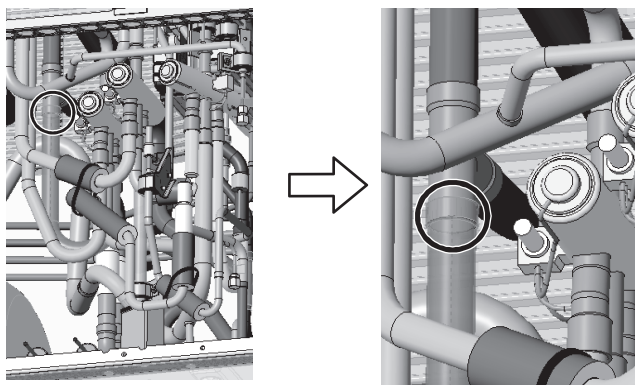

Figure 4
- (3) Remove the braze from the pipe where circled in the figure. (See Figure 4.)